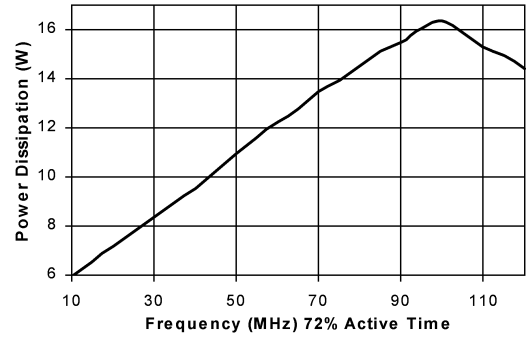

FIGURE 6. Power Dissipation vs Frequency
*Figure 6* shows the maximum power dissipation of the LM2462 vs. Frequency when all three channels of the device are driving an 8pF load with a 40Vp-p alternating one pixel on, one pixel off. The graph assumes a 72% active time (device operating at the specified frequency) which is typical in a monitor application. The other 28% of the time the device is assumed to be sitting at the black level (65V in this
The LM2462 case temperature must be maintained below 100°C. If the maximum expected ambient temperature is 65°C and the maximum power dissipation is 16.5W (from *Figure 6*, 100MHz bandwidth) then a maximum heat sink thermal resistance can be calculated: